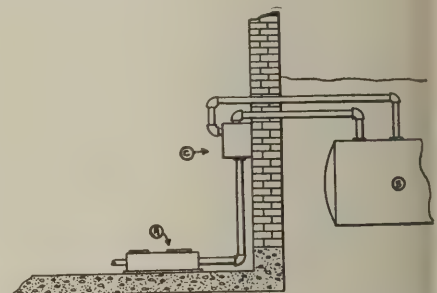

Fig. 4—Pump at (A) used to draw oil from storage tank
The roofs of subways, the presence of tide waters and other of nature's natural obstructions have forced the users of oil-burning devices to store liquid fuel above the point of consumption, and should a pipe line rupture occur in installations where pumps are employed to draw the fuel from the tank, a syphon may be created and discharge the contents of the storage tank into the furnace room. In Fig. 4 a diagrammatic sketch is given showing a pump at (A) drawing the liquid fuel from storage tank (B) through an anti-syphoning device at (C). This anti-syphoning arrangement may be secured by different methods, but the end to be secured is to have all pipe connections into the tank located above the liquid level and the discharge of oil in case of pipe breakage effectually prevented.